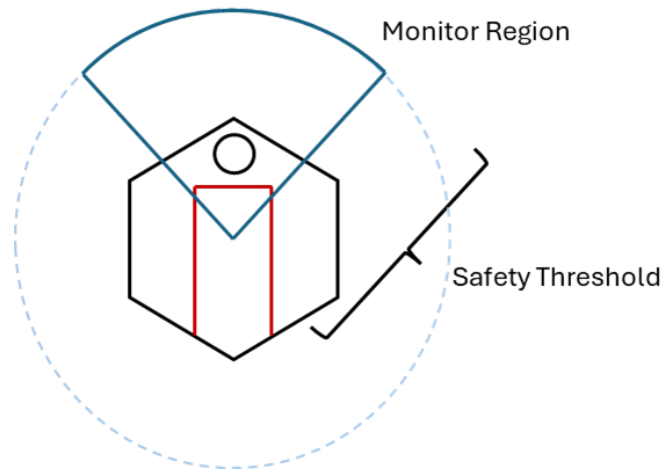

Figure 5. Dynamic Scanning
- Notice that in addition to the LiDAR measurements, QBot body speed commands are also used as input to the function. This is to allow our obstacle detection algorithm to dynamically change monitor region and safety threshold, as shown in Figure 5.